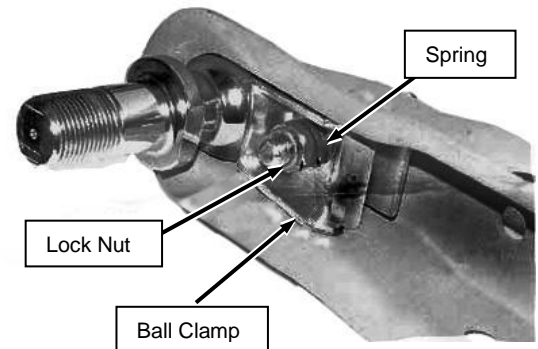

Figure 34
- With the proper size ball in the socket of the hitch coupler, close the latch of the coupler completely (**Figure 34**). Verify that the locking trigger is properly engaged in its detent.